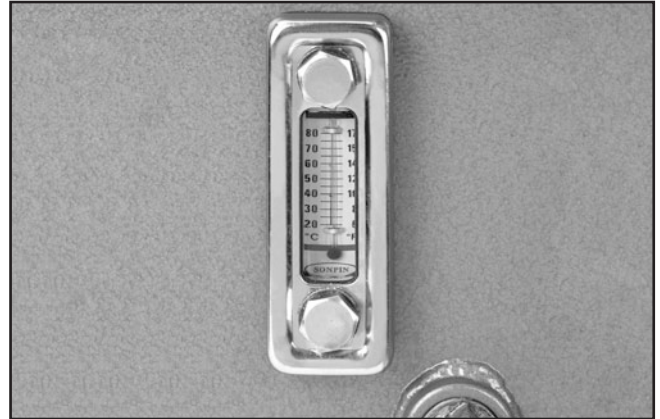

Figure 103. Tank thermometer.
If the oil temperature shown on the thermometer (**Figure 103**) ever exceeds 170° degrees Fahrenheit, the oil will get overheated and begin to break down. Change the oil immediately if this is the case. Investigate why the temperature exceeded the maximum. Possibilities may be poor ventilation, excessive work loads, or extreme work site temperatures. Correct the overheating problem to prevent this from happening again.
1. Remove the drain plug (**Figure 103**), and drain the oil from the tank into at least a 3-gallon drain pan.